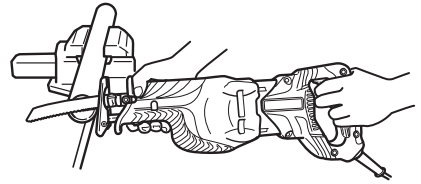

Fig. 19
- (1) Fasten a workpiece firmly before operation. (Fig. 19)
- (2) When cutting metallic materials, use proper machine oil (turbine oil, etc.). When not using liquid machine oil, apply grease over the workpiece.